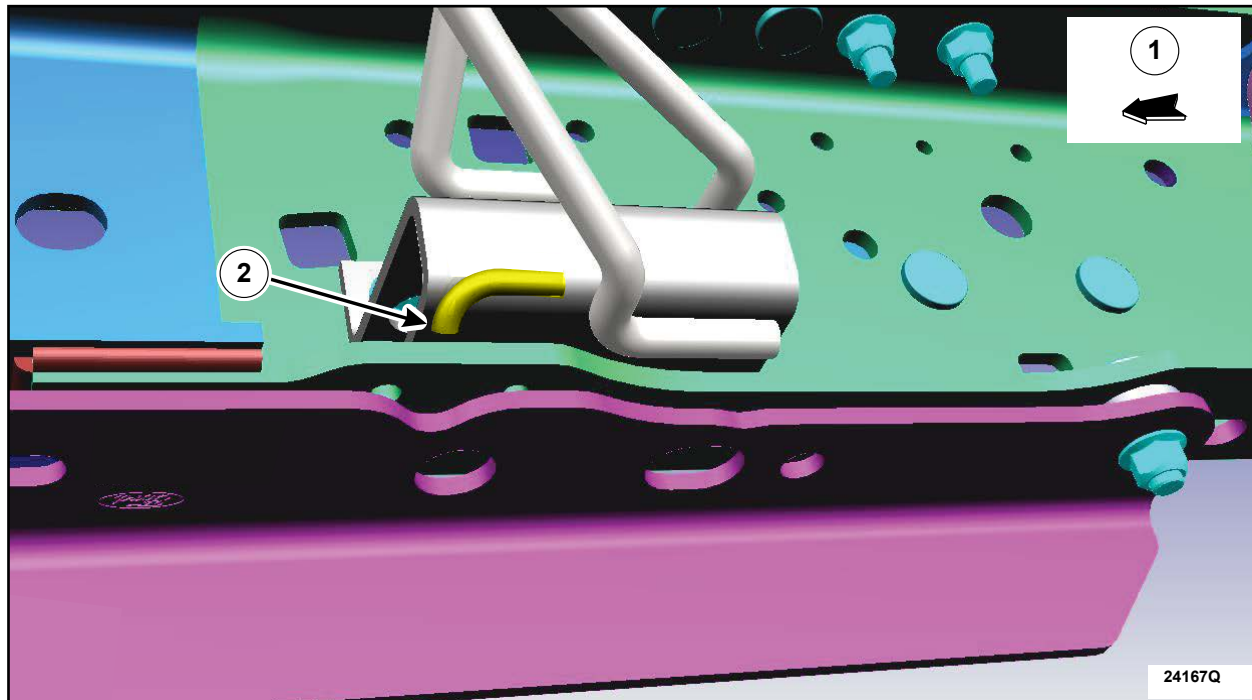

FIGURE 31
3. Figure 31 shows the final result once the exhaust hanger portion is removed.